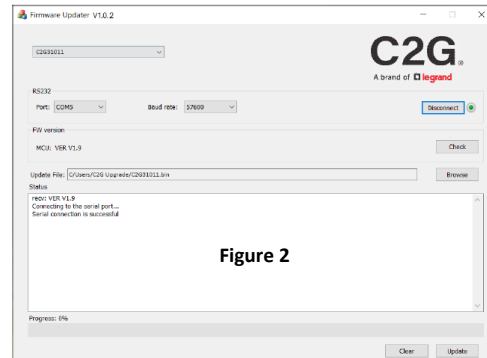

Figure 2
5. Figure 2, click “Browse” to select the upgrade bin file from the local PC and click “Update” to start upgrading firmware of the receiver.